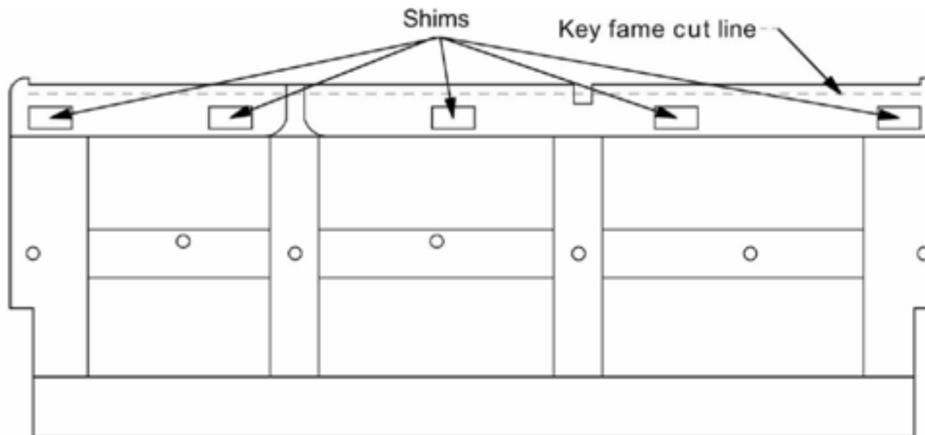

Figure 4
Determine if additional support is necessary. Measure from the back edge of keyframe to the keyframe cut line. Tilt the keyframe vertically, looking at the bottom side and transfer measurement to the bottom side plus 1/4" (6 mm). (See Fig.4 below) If there is still 1/8" (3 mm) or more support left on the keyframe, then no additional support is necessary. (Continue to Step 5)
A. Shimming the keyframe. If shimming is necessary, you must locate where to place the shim and how thick the shim must be. Looking at Figure 4, you will see a view of the bottom of the keyframe. The dotted line represents the keyframe cut line that was transferred from the top. Notice the 5 shims are placed 1/4" (6 mm) from the dotted line. This is because the 1/4" (6 mm) portion is in the slot location.
4. Evenly space the shim on the bottom of the keyframe and glue the shims into place. (see Figure 4)